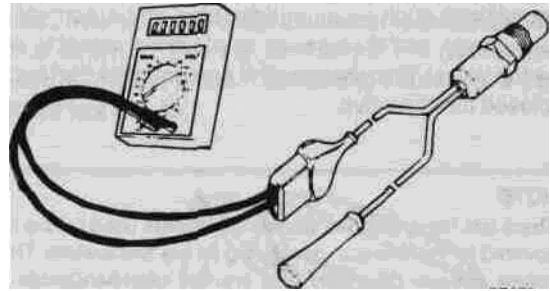

Fig. 22. Oxygen sensor heating coil resistance being measured (shown schematically).
- If the sensor does not emit a fluctuating voltage, turn the engine off and check the sensor's preheater circuit. Disconnect the two-wire connector and check for battery voltage at the connector with the engine running. If voltage is not present, check the wiring to the preheater and check the preheater fuse. If voltage is present, check the preheater coil resistance. See Fig. 22. If any faults are found, replace the sensor.